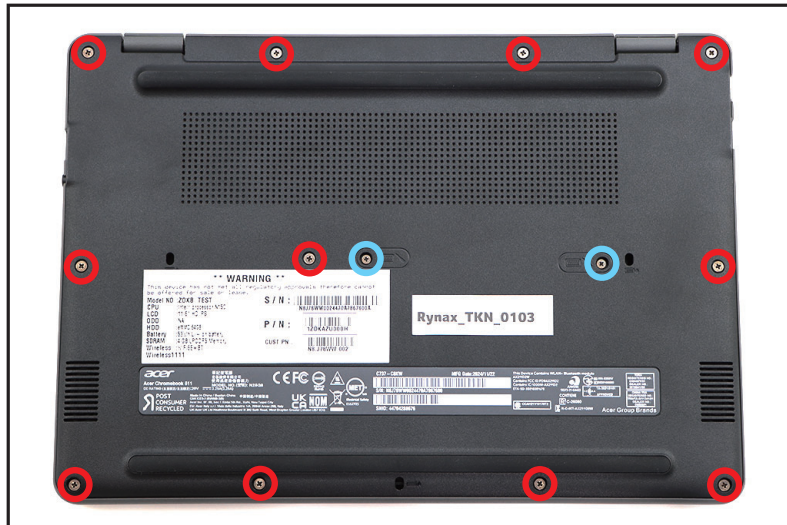

Figure 3-3. Base Cover Removal
1. Remove eleven (11) screws from the base cover. Then remove another two (2) screws securing the keyboard (Figure 3-3).